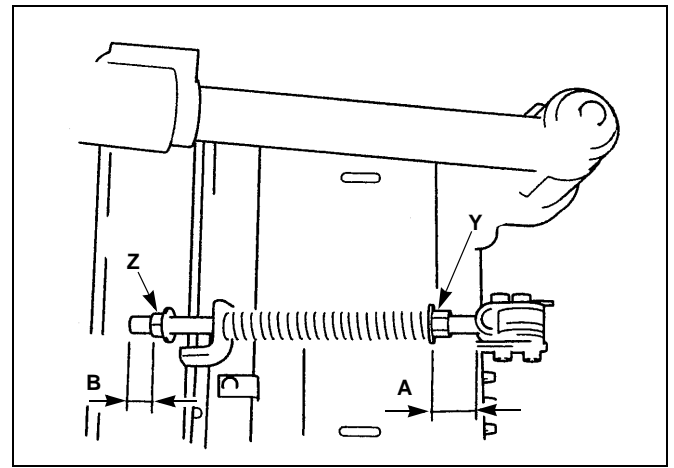

Figure 4-63
2. Loosen nut 'Y' to adjust Dimension A to be  $1.18'' \pm .08''$  ( $30\text{mm} \pm 2\text{mm}$ ). Complete this adjustment for each cutting unit. This will keep the cutting unit down pressure consistent. (Figure 4-63) By this adjustment, down pressure load of all of the 5 units becomes constant. Figure 4-63
3. Adjust nut 'Z' so Dimension B is  $.2'' \pm .08''$  ( $5\text{mm} \pm 2\text{mm}$ ). By this adjustment, the amount of drop of the rear of the cutting unit will be limited to the same on all units. Figure 4-63.